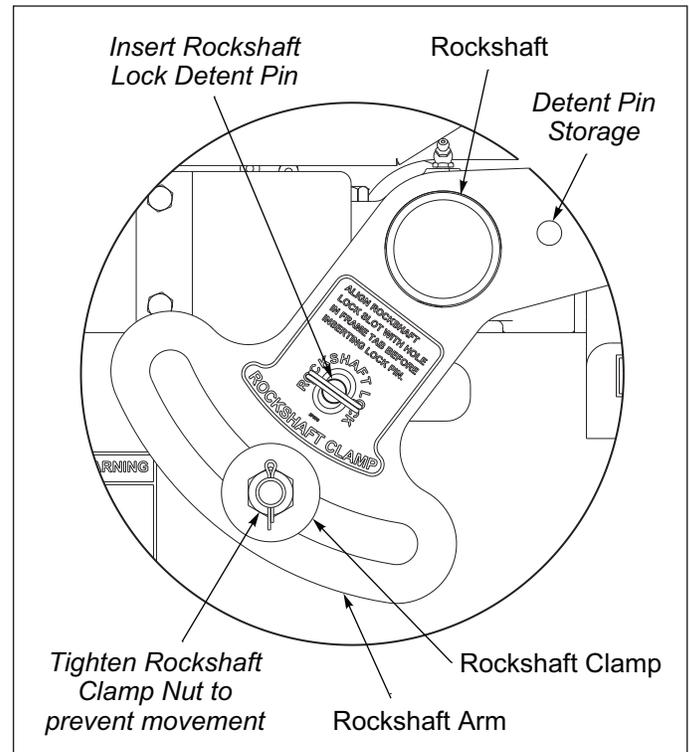

Figure 1-2: Rockshaft Lock
- Install Rockshaft Lock Detent Pin and tighten Rockshaft Clamp prior to tying it down onto trailer. **See Figure 1-2.** Failure to do so may result in tie downs becoming loose and machine damage.
- After attaching implement to the tractor and prior to lifting the machine, loosed nut on Rockshaft Clamp enough to allow movement and remove the Rockshaft Lock Detent Pin. Insert Detent Pin in storage hole on Rockshaft Arm. Raise stand. **See Figure 1-2.**
- Before detaching implement from the tractor, lower machine to the ground and adjust the tractor top link as necessary to align the Rockshaft Lock Slot with the Frame Tab Hole. Install Rockshaft Lock Detent Pin. **See Figure 1-2.** Tighten nut on the Rockshaft Clamp to prevent movement.